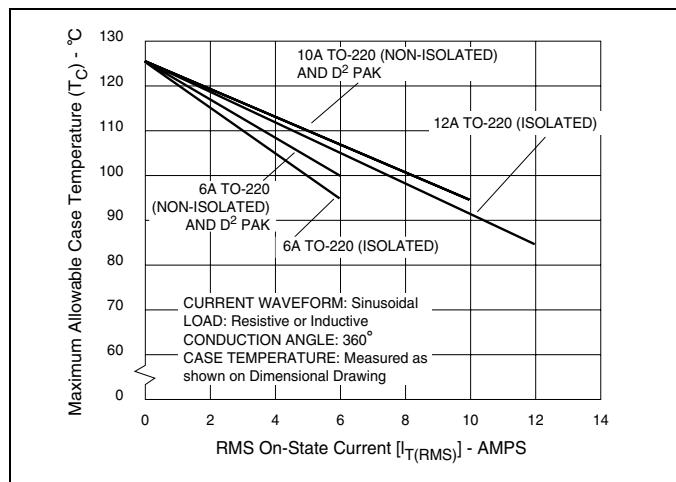
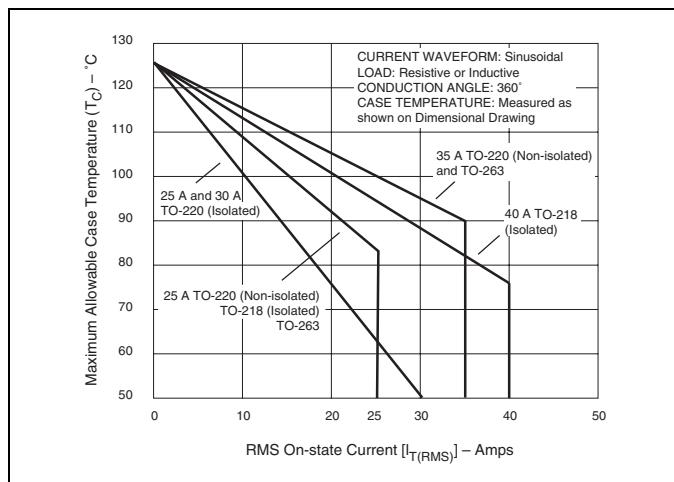
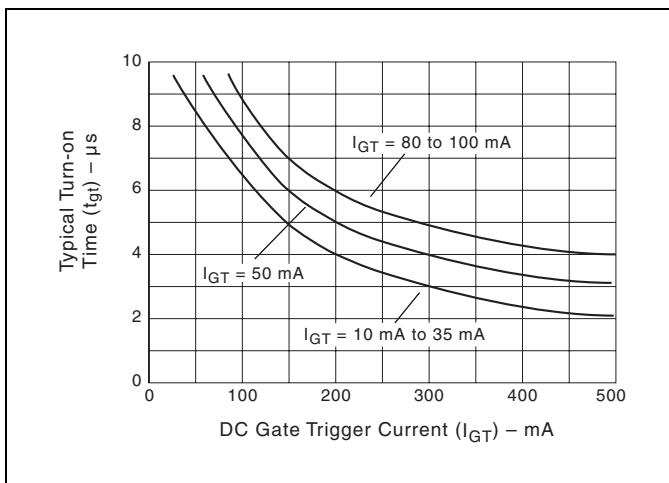

Figure E4.1 Maximum Allowable Case Temperature versus On-state Current (6 A to 12 A)
Figure E4.4 Maximum Allowable Case Temperature versus On-state Current (25 A to 40 A)
Figure E4.12 Turn-on Time versus Gate Trigger Current (Typical)
- See Figure E4.1 through Figure E4.4 for current rating at specific operating temperature and Figure 4.16 for free air rating (no heat sink).
- (10) See Figure E4.12 for t_{gt} versus I_{GT} .
- (11) See package outlines for lead form configurations. When ordering special lead forming, add type number as suffix to part number.
- (12) Initial on-state current = 400 mA dc for 16 A to 40 A devices and 100 mA for 6 A to 12 A devices.
- (13) See Figure E4.1 through Figure E4.4 for maximum allowable case temperature at maximum rated current.
- (14) Pulse width $\leq 10 \mu s$; $I_{GT} \leq I_{GTR}$
- (15) For 6 A to 12 A devices, $R_L = 60 \Omega$; 16 A and above, $R_L = 30 \Omega$
- (16) 40 A pin terminal leads on K package can run 100 °C to 125 °C.
- (17) Alternistor does not turn on in Quadrant IV.
- (18) $T_C = T_J$ for test conditions in off state
- (19) $I_{GT} = 200$ mA for 6 A to 12 A devices and 500 mA for 16 A to 40 A devices with gate pulse having rise time of $\leq 0.1 \mu s$.
- (20) Minimum non-trigger V_{GT} at 125 °C is 0.2 V.